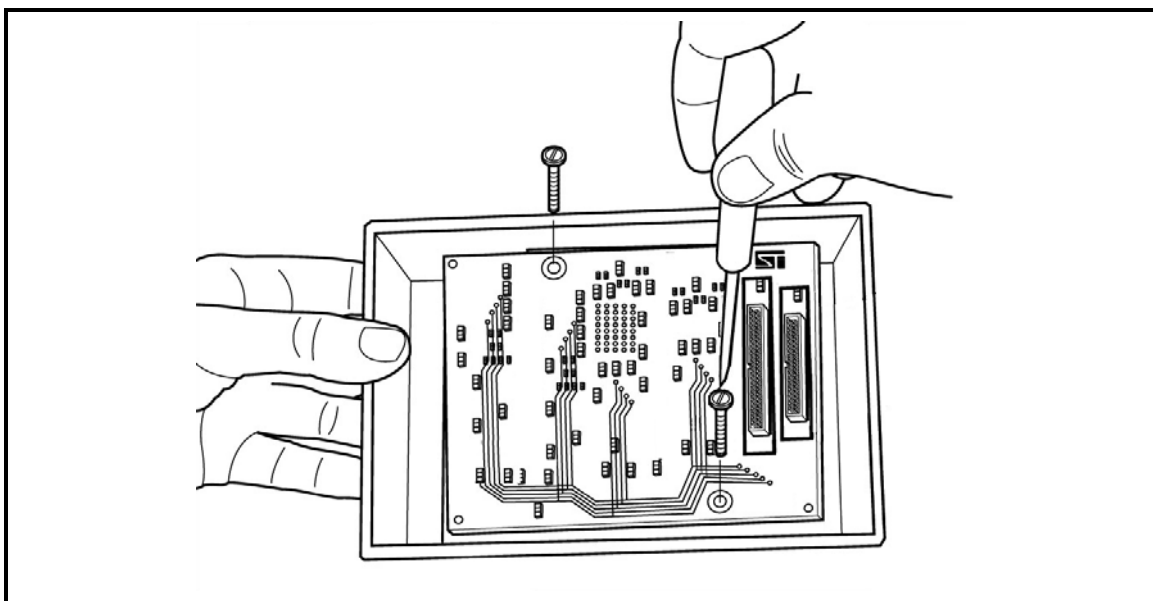

Figure 10: Removing the TEB screws
- 2 Remove the two screws that secure the TEB to the rest of the probe boards, as shown in Figure 10.
- 6 Once the TEB is firmly in place, refasten the two screws that fix the TEB to the DEB, as shown in Figure 10. Take care not to over-tighten the screws.